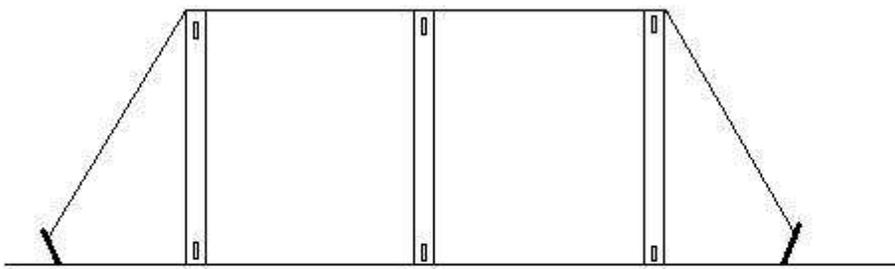

Figure 1.4
**Step 8.** Making sure that your fence post are straight and plumb is a crucial step in your vinyl fence project. After you have set a fence line stretch a line across the two end post. This will allow you to adjust the height of your post. Adjust the fence up or down to create a uniform fence line. To raise a post pull it gently up out of the ground. To lower a post use a soft blow hammer and tap the top of the post. Allow your post to set in concrete for at least 48hrs before installing your sections. (Fig 1.4)